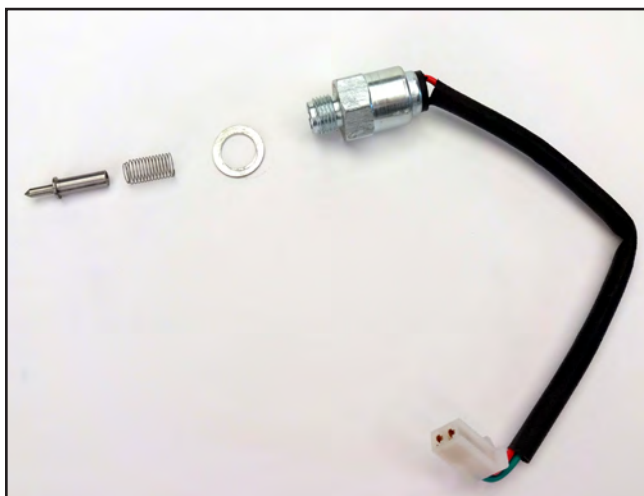

Figure 8
3. Inspect spring and valve for damage (Figure 8).